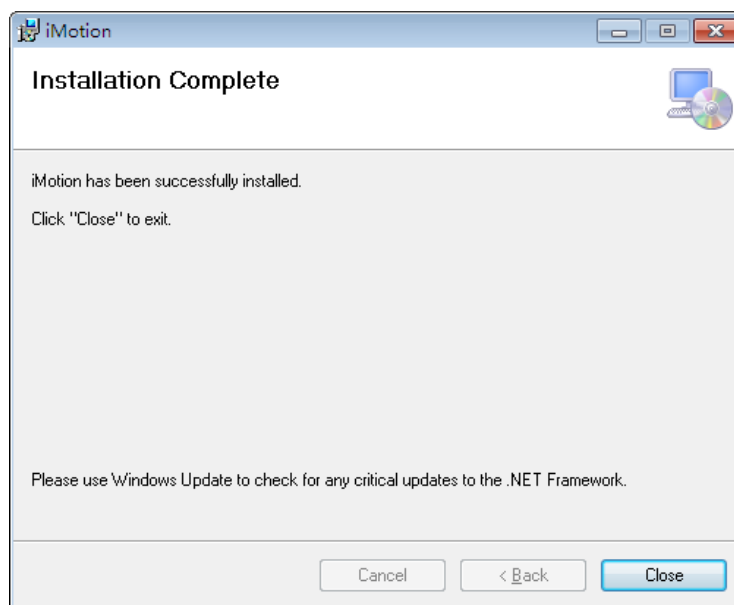

Fig. 1-6 Installation complete
7. As shown in Fig. 1-6, click “Close” to complete the installation of *iMotion* software.